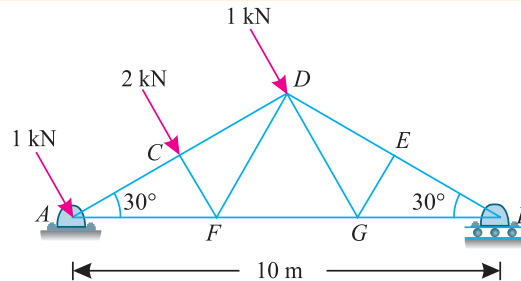

Fig. 12.30.
**Example 12.15.** Fig. 12.30 shows a roof truss hinged at one end and rests on rollers at the other. It carries wind loads as shown in the figure.